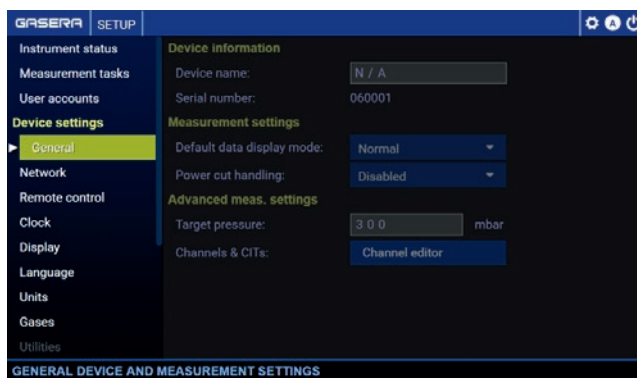

Figure 57. Defining a name for the GASERA ONE unit and editing general measurement settings.
**General** setup menu shows information about the GASERA ONE unit, such as the serial number. Each GASERA ONE unit has a unique serial number printed on the type label on the rear panel and stored to the internal memory. It is also possible to give a user-defined name to the unit as presented in Figure 57.